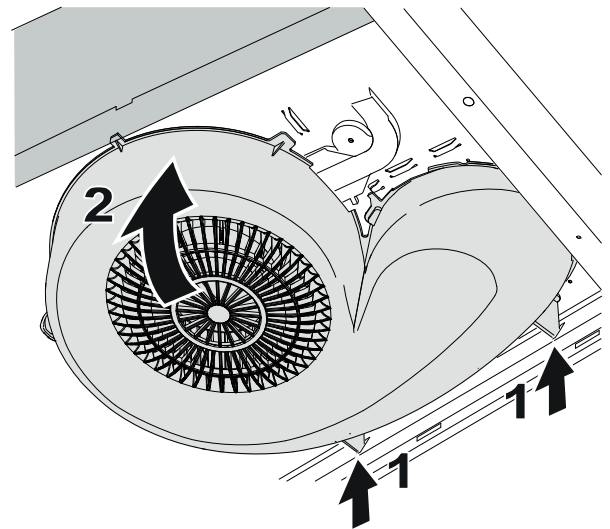

Fig. 7
Refit the blower by inserting the supports in the rear of the fan (1). Bend up the blower (2), Fig. 7